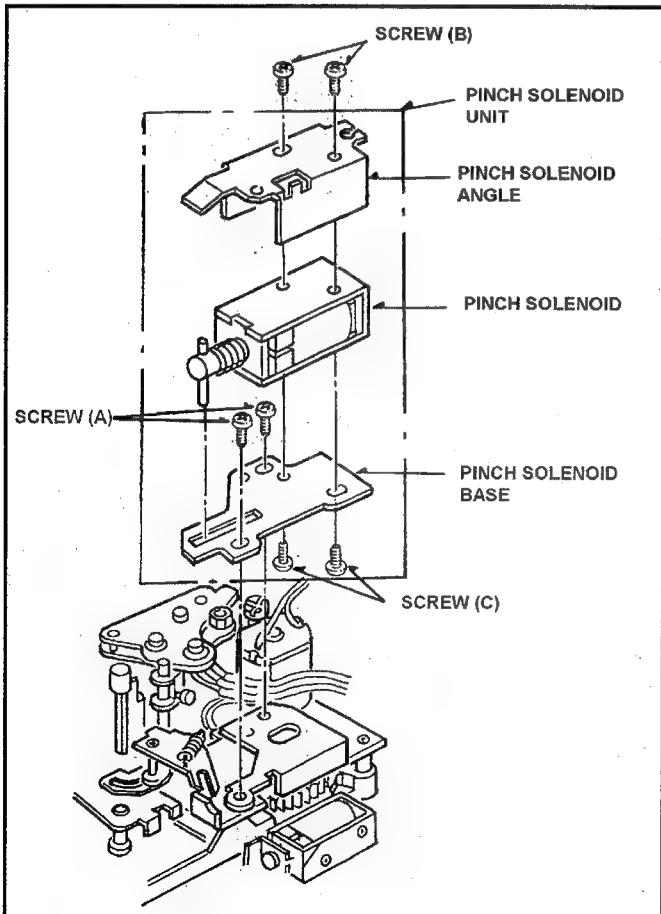

Fig. 10-9-1. Removal of Pinch Solenoid
4. Unscrew the **2 screws (A)** and remove the Pinch Solenoid Unit as shown in Figure 10-9-1.
5. Unscrew the **2 screws (B)** and remove the Pinch Solenoid Angle as shown in Figure 10-9-1.
6. Unscrew the **2 screw s (C)** and remove the Pinch Solenoid from the Pinch Solenoid Base.